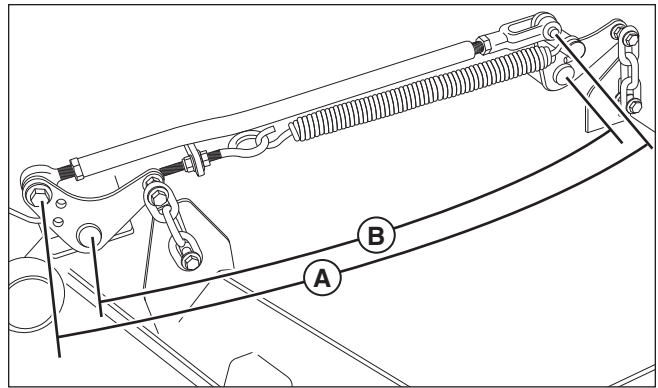

Figure 35. Measure the Lift Pivots and Rod Pivots
2. Measure and record the distance between the lift pivots and the rod pivots. Repeat for the other side of the unit. See Figure 35.